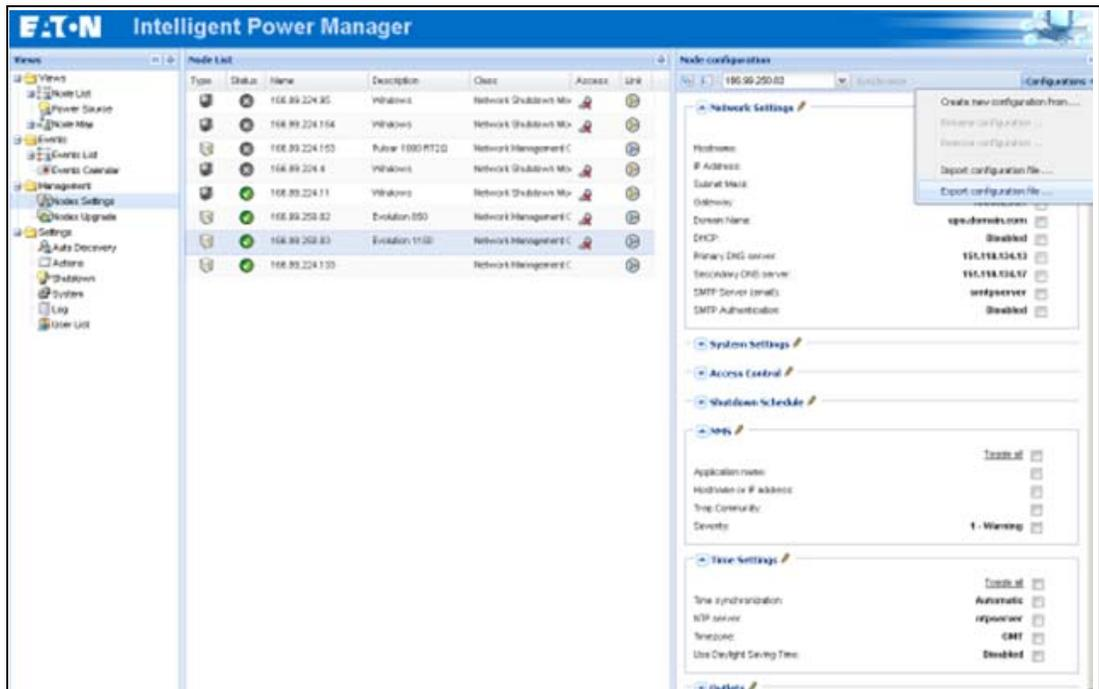

Figure 77. Nodes Settings View
2. Select one node (card) from the Node List page (see Figure 77).
2. Select one node (one card) from the Node List page (see Figure 77).